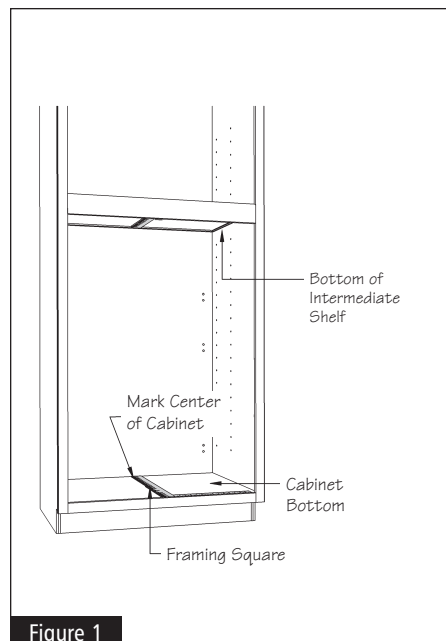

Figure 1
- 2** Measure the width of the inside of the cabinet to find the center of the cabinet from side to side. Using a framing square mark a line at the center of the cabinet from the front of the cabinet to the back of the cabinet on the cabinet bottom and on the bottom of the intermediate shelf. See Figure 1.